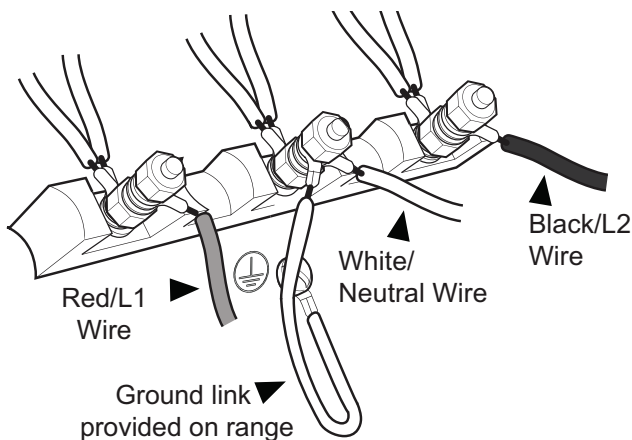

Figure 20: 3-Wire Connection
4. Secure the neutral, grounded wire of the supply circuit, to the center stud (silver colored) of the terminal block (see *Figure 20*).